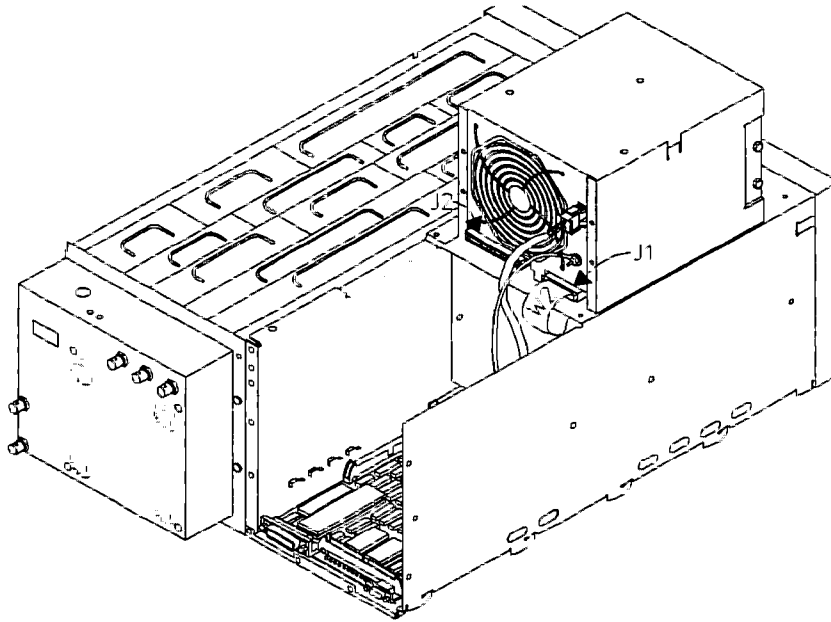

Figure 4-1. Connecting Test Board
3. Disconnect the CPU power cable (W2) from J1 on the CPU assembly. Disconnect the motherboard power cable (W12) from J2 on the Power Supply assembly (see figure 4-1).